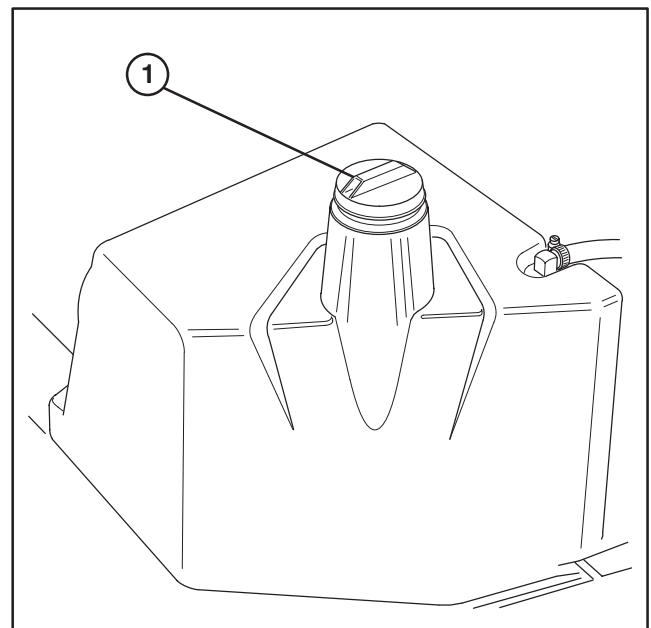

Figure 6
1. Remove cap from the fuel tank (Fig. 6) and fill the 4.5 gallon tank to within 1 inch from the top with unleaded gasoline. Install fuel tank cap tightly.